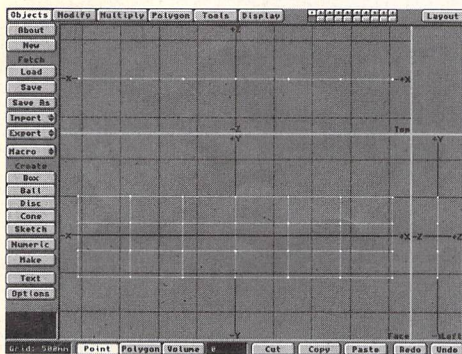

Figure 1: A simple segmented plane is where we begin.
1. Think of a car in its most simple form. It's a box with two wheel wells cut out and a box on top for the windows and roof. Even easier, make a profile of the car. To do this, enter Modeler and make a flat box (use the Numeric tool) with multiple segments for the wheel wells and roof. Enter 3 for the Y, 6 for the X and 0 for the Z. Figure 1 shows a sample segmented plane.